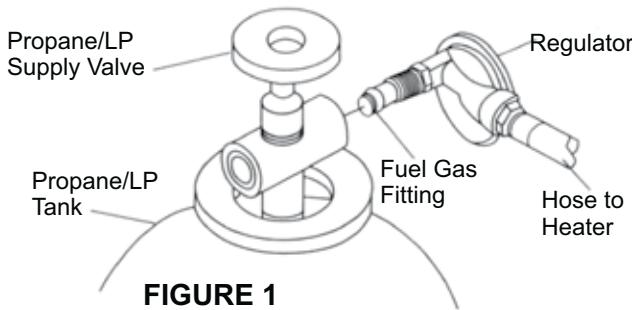

FIGURE 1
2. Connect fuel gas fitting hose/regulator assembly to propane LP tank(s). Turn fuel fitting counterclockwise into threads on tank. Tighten firmly using a wrench. Some models have a hand wheel that can be used to tighten the fitting. This hand wheel can be slid off of the nut so that a wrench can also be used to tighten the fitting. **IMPORTANT:** Position regulator so that hose leaving the regulator is in a horizontal position (see Figure 1).